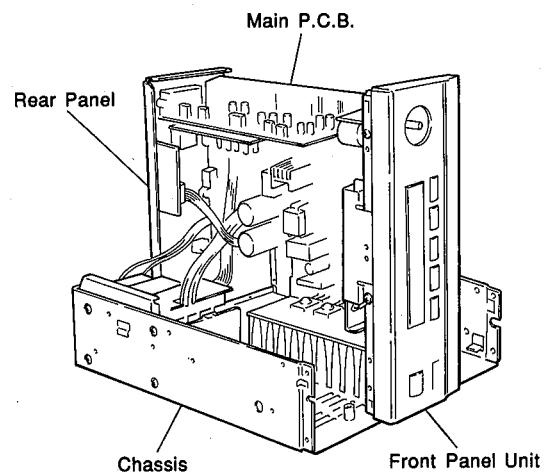

Fig. 2
- c. With the Main P.C.B. placed on its side as shown in Fig. 2, install the Front Panel unit.